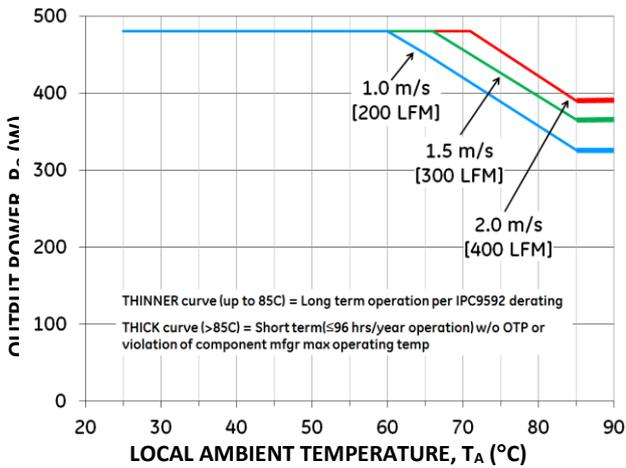

Figure 15. Output Power Derating for the Base Plate QBVS044A4S10R8xx-H in the Transverse Orientation; Airflow Direction from Vin(-) to Vin(+); Vin = 51V.
Increased airflow over the module enhances the heat transfer via convection. The thermal derating of figure 15- 20 shows the maximum output current that can be delivered by each module in the indicated orientation without exceeding the maximum Tref temperature versus local ambient temperature (TA) for several air flow conditions.